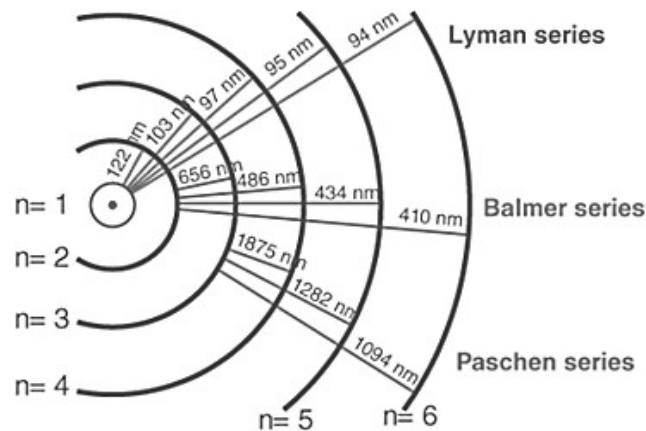

Fig. 1 Emission Spectra of Hydrogen
The apparatus is shown in Figure 1 and consists of—(1) Pasco Model SP-9268 Precision Student Spectrometer, (2) Grating with either 300 lines/mm or 600 lines/mm, (3) Hydrogen Discharge Lamp and Power Supply, (4) Magnifying Glass, (5) Small Night Light, and (6) Black Cloth to Block Out Stray Light.